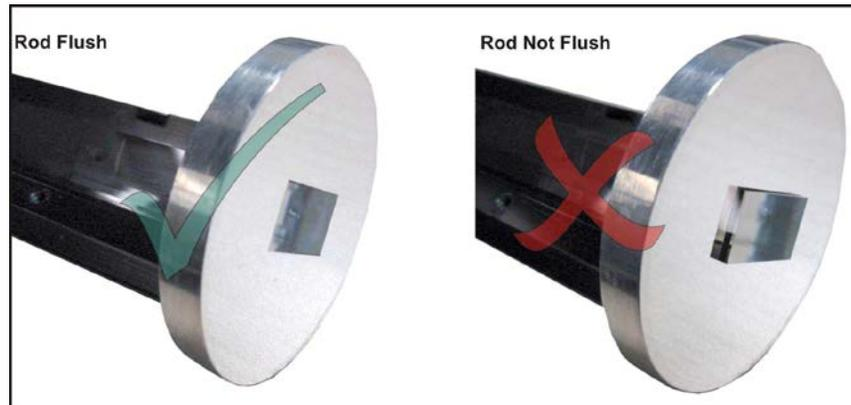

Figure 6 Ensure Integrator Rod is Flush
7. Ensure the quartz integrator rod is visually flush at both ends (**Figure 6**). If it has moved and is sticking out at the input end (right-side) very carefully and slowly push it back to flush using a clean rounded plastic rod, such as a clean pen top. Only touch the rod in the center. **CAUTION! Only touch the integrator rod on the input end (right-side). DO NOT push beyond flush position. Never touch the integrator rod on the left-side (output end).**